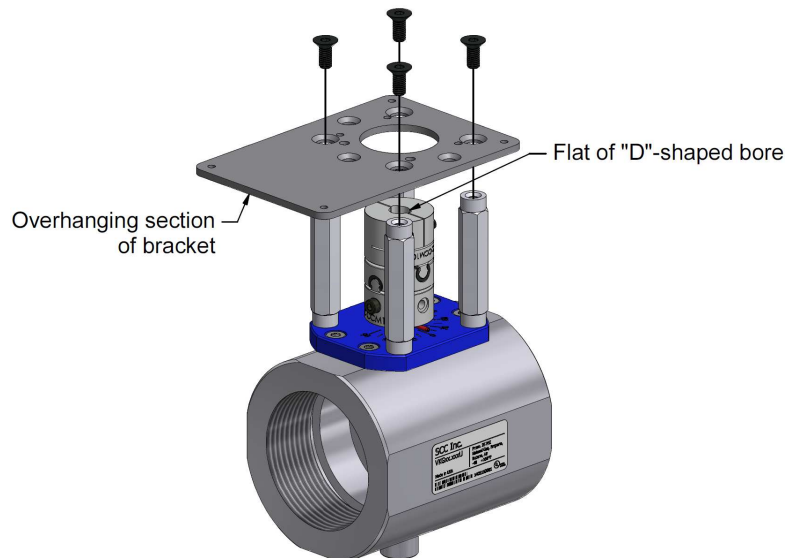

Figure 4: Mounting Bracket Installation
- Place a small amount of blue Loctite on the end of each of the (4) M6 x 14mm flat socket head screws. Using a 4mm hex key, fasten the mounting bracket to the top of the standoffs as shown in Figure 4 below. The overhanging section of the bracket must face away from the flat of the "D"-shaped bore in the coupling as shown.